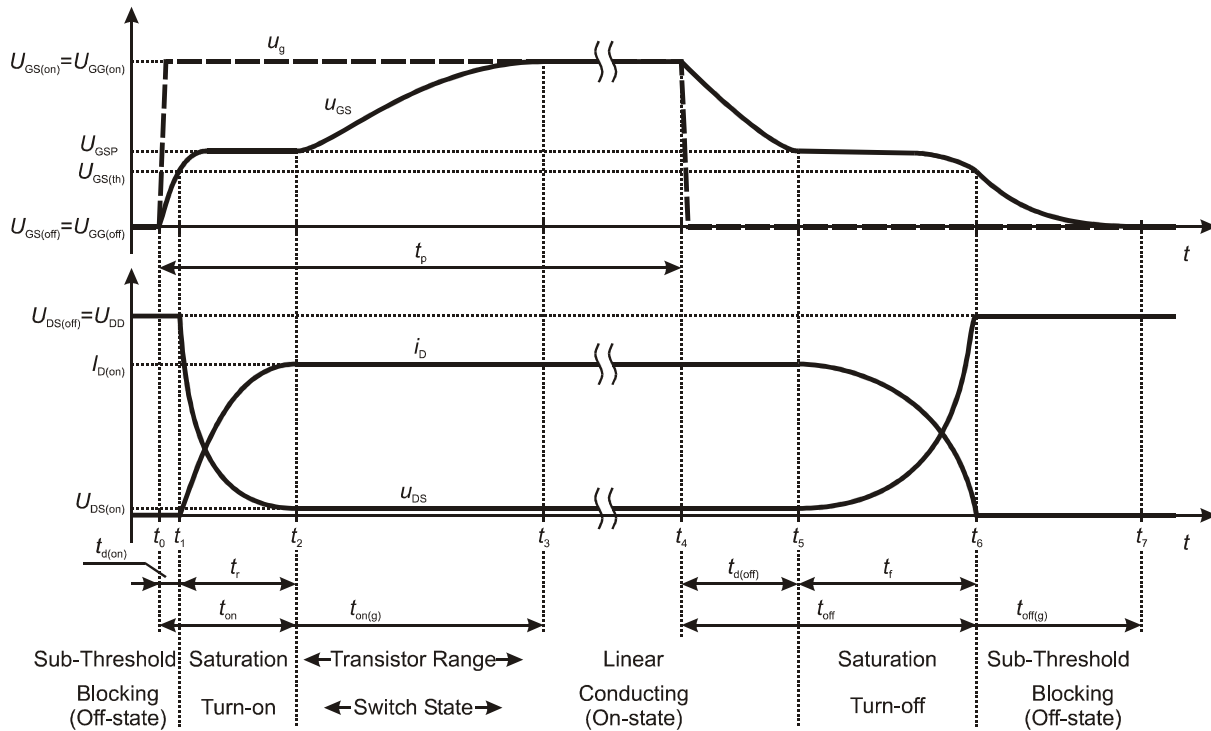

Fig. 6. Voltage and current waveforms during MOSFET switching
11. Adjust (generating the switching pulse after each change is made) the time base and the trigger event position (*Sec/Div* and *Position* knobs) so that the entire pulse of the  $u_{GS}$  voltage is visible (see Fig. 6) and occupies most of the display horizontally.
12. Using the *Ch2 Menu* button, display the waveform from channel 2, i.e. the  $u_{DS}$  voltage. Check whether the waveform is correct (see Fig. 6).
so that the current waveform is visible in an optimal way, i.e. it maximally fills the screen vertically but does not extend beyond. Check whether the waveform is correct (see Fig. 6).
- (a) set the time base (*Sec/Div*), the trigger event position (*Horizontal Position*) and, if needed, the trigger level (*Level*) so that the process of transistor's turn-on process (not any other operating state) both in the main and in the control circuit, i.e. along the  $t_{on(g)}$  interval (see Fig. 6), can be observed with the highest possible accuracy;
4. Based on the oscilloscope image, estimate the transistor's operating point parameters in the on-state (see Fig. 6):